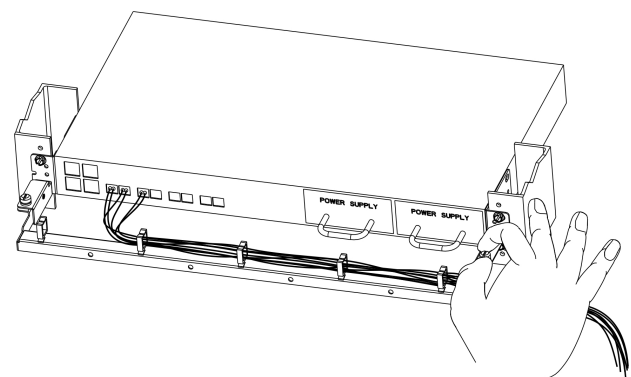

Figure 3. Loosen thumbscrews
3.1 To pivot the bar down for clearance to equipment, first loosen the thumbscrews on both sides of the CBS-100 keeping a hand under the bar. Slowly lower the bar down until clearance is obtained. When complete, simply lift the bar and retighten the two thumbscrews. Refer to Figure 3 and 4. for reference.